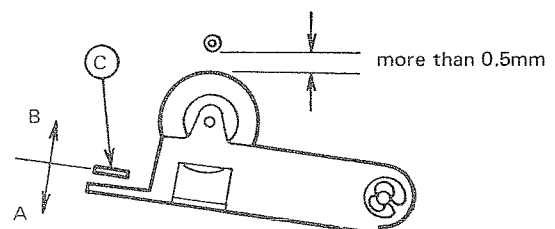

Fig. 25
- 1) If the tape is projected from the cassette half at the beginning of cue action, adjust it by bending the part (C) of pinch arm lever to the A direction as shown in Fig. 25.
- 2) If the tape is fast forwarded at the beginning of cue action, bend the part (C) to the B direction as shown in Fig. 25.
- 1) If the tape is projected from the cassette half at the beginning of review action, bend the part (C) to the A direction as shown in Fig. 25.
- 2) If the tape is fast forwarded at the beginning of review action, bend the part (C) to the B direction as shown in Fig. 25.